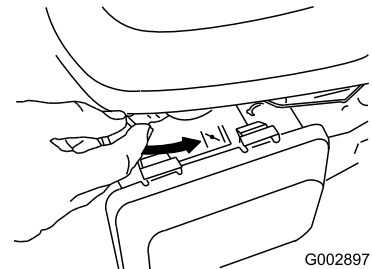

Figure 24
3. Move the choke lever to the Choke position (Figure 24).